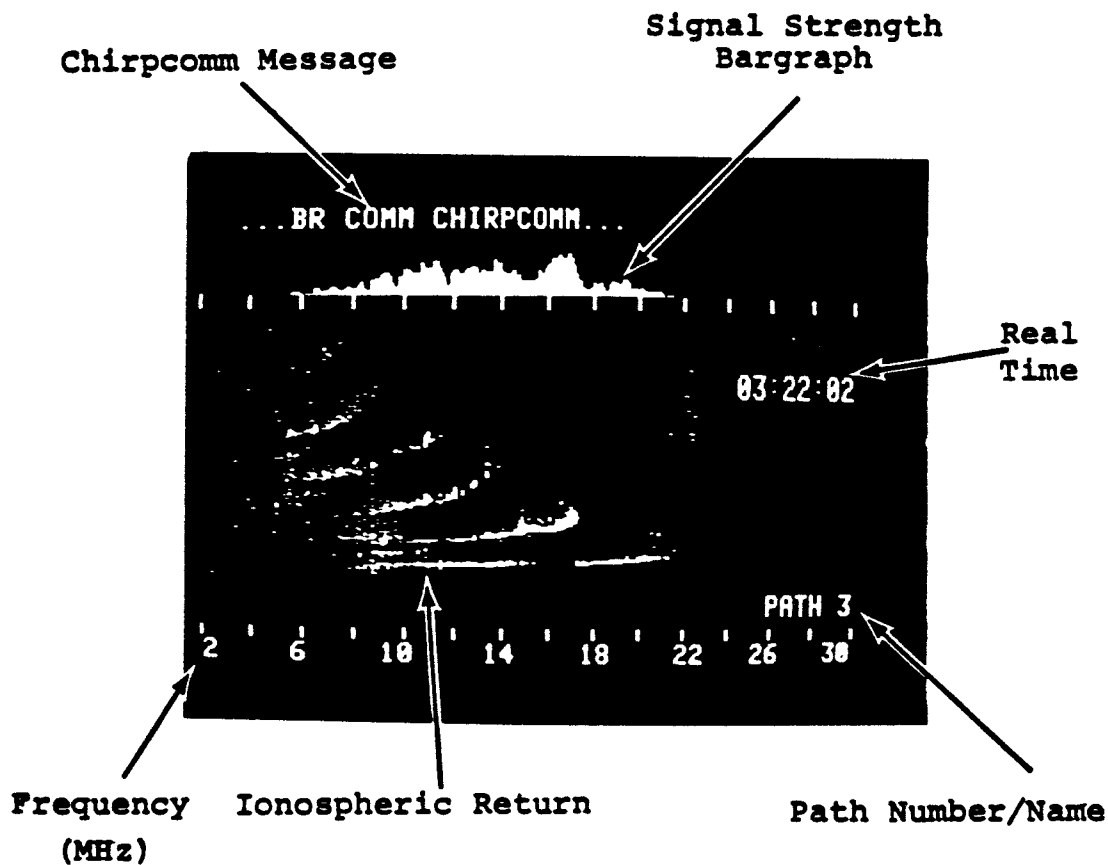

Figure 1-3. RCS-5 Chirpsounder Record Display
c. The output of the spectrum analyzer is then displayed on the CRT versus the RF sweep of the sounder. The CRT vertical axis indicates received signal time delay (ionospheric mode structure) versus the CRT horizontal axis of radio frequency; 2-16 or 2-30 MHz. The result is a display of propagating modes vs. frequency, referred to as a Chirpsounder Record as shown in Figure 1-3.